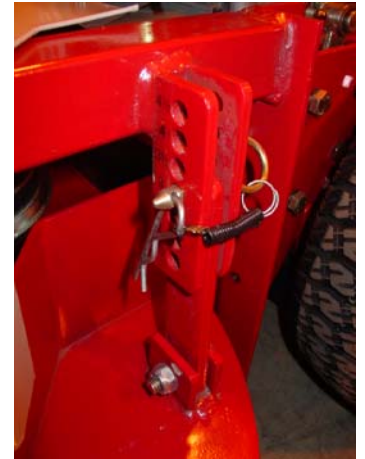
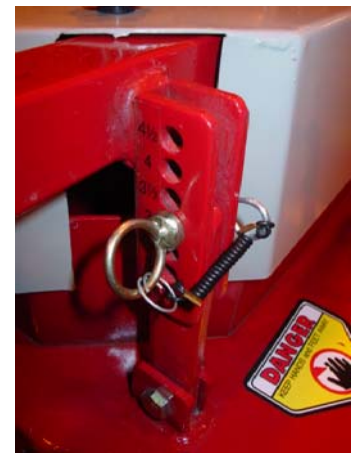

Figure 9A
Figure 9B
3. Raise or lower the deck until the hole in the height adjust bar (Figure 9A) aligns with the desired cut height hole on the height adjust bracket (Figure 9B).